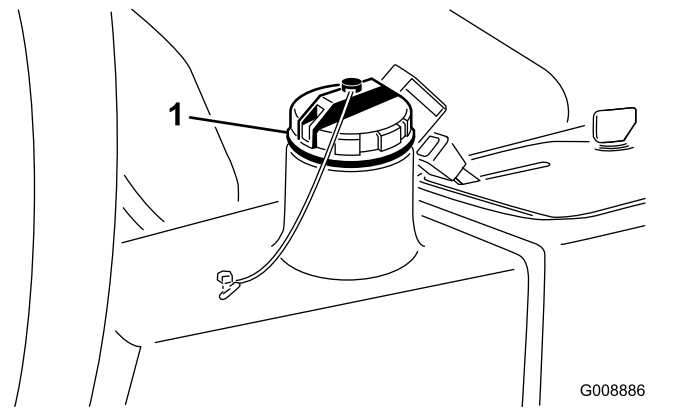

Figure 82
4. Fill the reservoir (Figure 82) with approximately 22.7 L (6 US gallons) of hydraulic fluid; refer to Hydraulic Fluid Specifications \(page 54\).